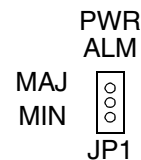

Figure 3. PWR ALM (JP1) Terminal
2.15 The PWR ALM (JP1) terminal (Figure 3) on the CEP determines the alarm issued when all power is lost to the shelf. Without straps, the shelf issues a major and a minor alarm. With a strap between the center pin and the MAJ pin, the shelf issues a major alarm. With a strap between the center pin and the MIN pin, the shelf issues a minor alarm.